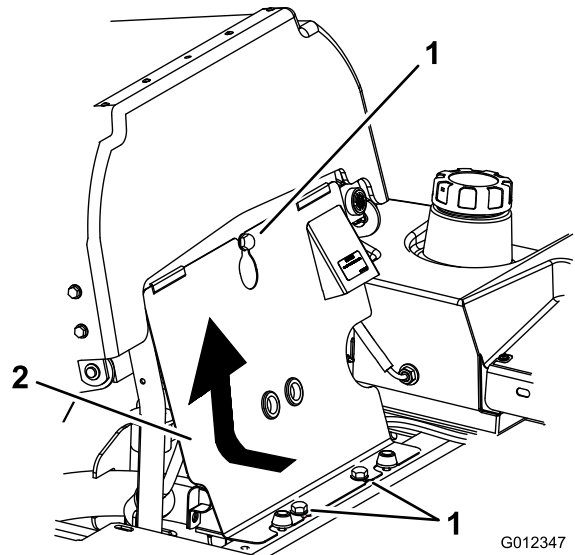

Figure 63
3. Tilt the seat forward, loosen the bolts and remove the front engine panel (Figure 63).